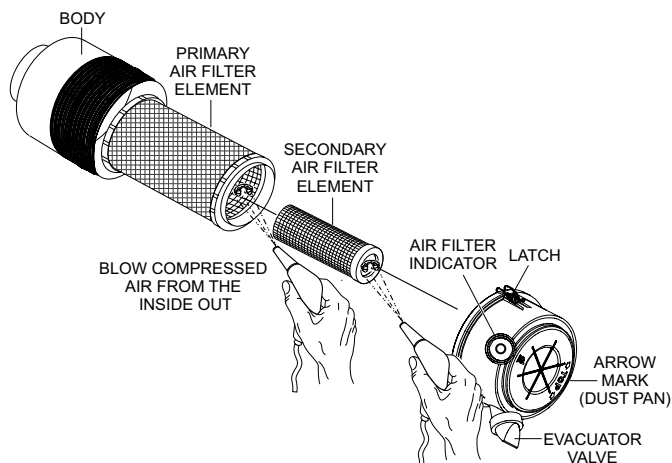

Figure 60. Air Cleaner
Every 250 hours: Remove air cleaner element (Figure 60) and clean the heavy duty paper element with light spray of compressed air. Replace the air cleaner as needed.
1. Release the latches (Figure 60) that secures the cover to the air cleaner body.
6. To clean the primary element (paper air filter) as referenced in (Figure 60), tap the filter element several times on a hard surface to remove dirt, or blow compressed air not to exceed 30 psi (207 kPa, 2.1 kgf/cm²) through the filter element from the inside out.